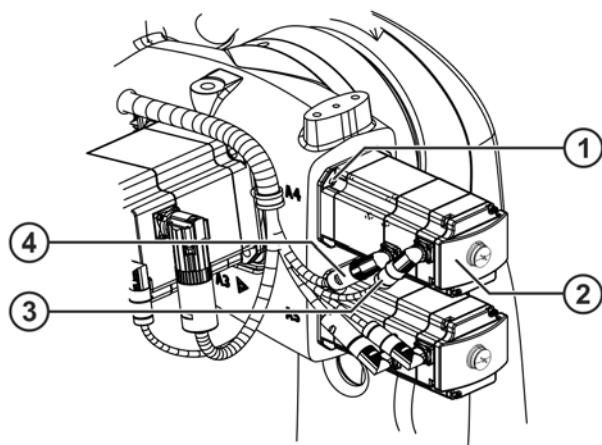

Fig. 11-12: Installing motor A4
8. Clean the mounting surface (**>>> Fig. 11-12**) for motor A4 on the arm.